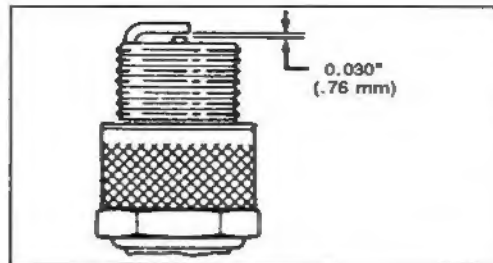

Figure 14
3. Set air gap at 0.030" (0.76 mm) (Fig. 14). Install correctly gapped spark plug and gasket seal. Tighten plug firmly to 15 ft-lb (20.4 N-m).